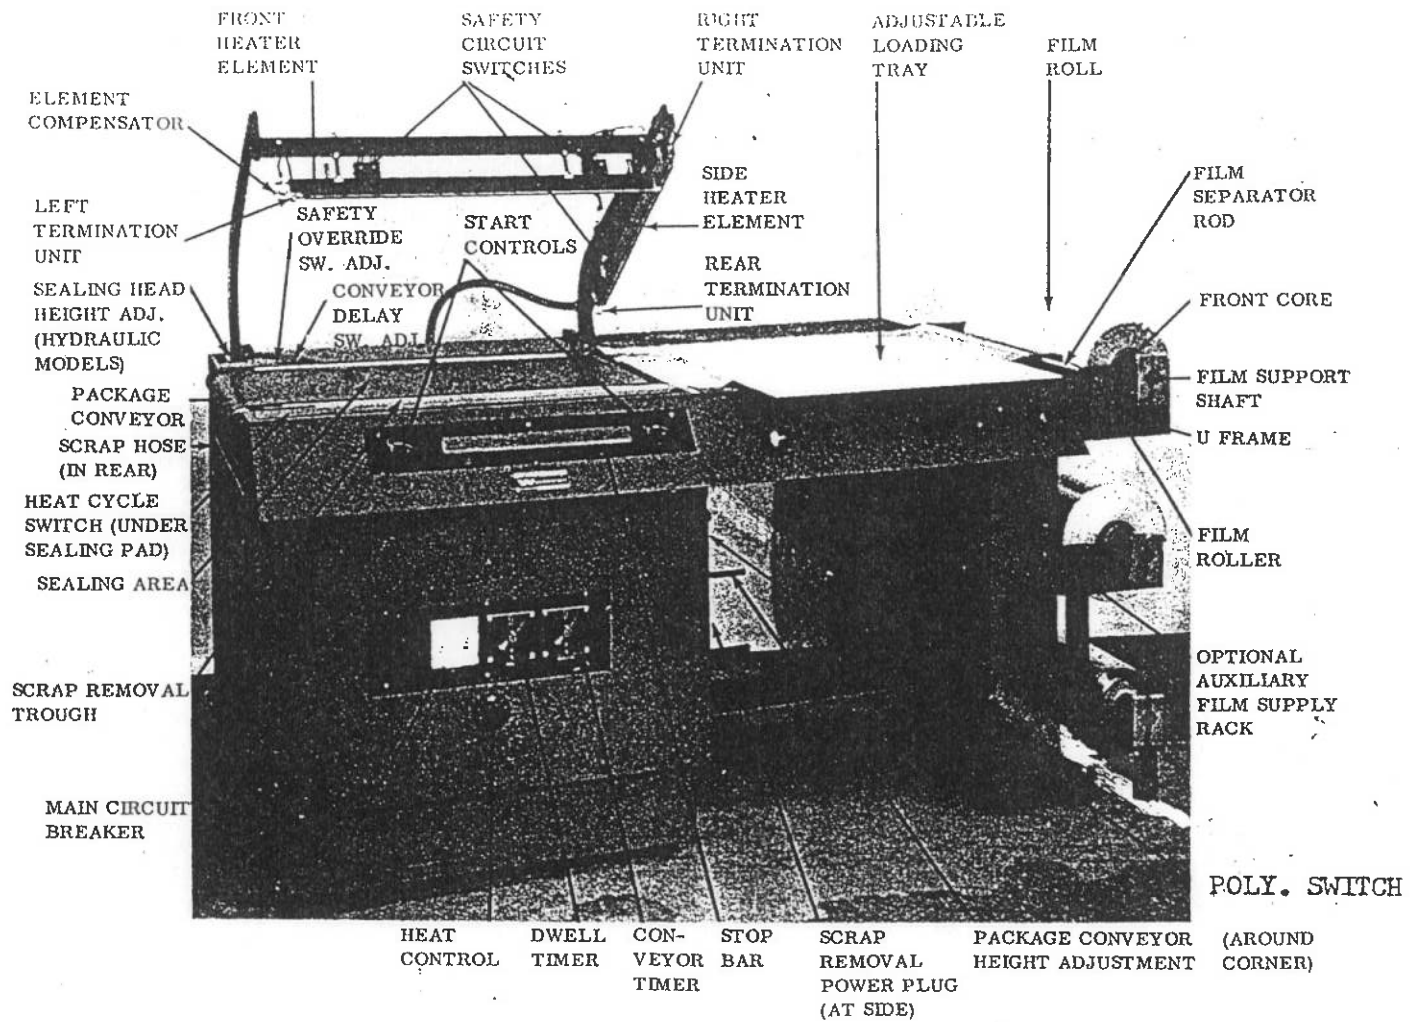

Figure 4.1 Location of Control and Adjustments
- 4.1.1 Refer to Figure 4.1. Check that Main Circuit Breaker is in OFF position.
Refer to Figure 4.1 throughout this section.
Make sure nothing is laying on the lower pads which would cause the safety bars to be prematurely actuated. If everything seems normal, but the head continues to return to the raised position, the Safety Override Switch requires readjustment. (Refer to Figure 4.1). With the sealing head in the raised position, loosen the locking jam nut and turn the slotted head adjusting screw clockwise a half turn at a time and relock the jam nut. Each time the adjusting screw is turned the sealing head should be recycled* to check if it will stay in the down position for the sealing cycle. After the head is cycling properly, check out the safety circuit by placing a 3/8-inch stack of corrugated cardboard on the lower pad and cycle the head, as described in the checkout procedure.
If the sealing head does not return immediately when a 3/8-stack of corrugated cardboard is placed on the lower bar to check out the safety circuit, the Safety Override Switch will require adjustment (refer to Figure 4.1).
If the package conveyor begins to move while the package is still under sealing pressure, or if conveyor movement is delayed too long after sealing is completed, an adjustment of conveyor-delay is required. Refer to the Conveyor Delay Switch Adjustment call-out of Figure 4.1. If the conveyor starts too soon, loosen the retaining nut with a 7.16" open end wrench and turn the adjusting screw clockwise 1/4 turn and test the action. Repeat, 1/4 turn at a time, until operation is satisfactory. Retighten retaining nut. If conveyor action is delayed too long, turn adjusting screw counterclockwise, 1/4 turn at a time.
Do not confuse this conveyor-delay adjustment with any adjustment of conveyor running time which may be required. Conveyor running time is determined by adjustment of the Conveyor Timer setting on the front of the Sealer (See Figure 4.1).